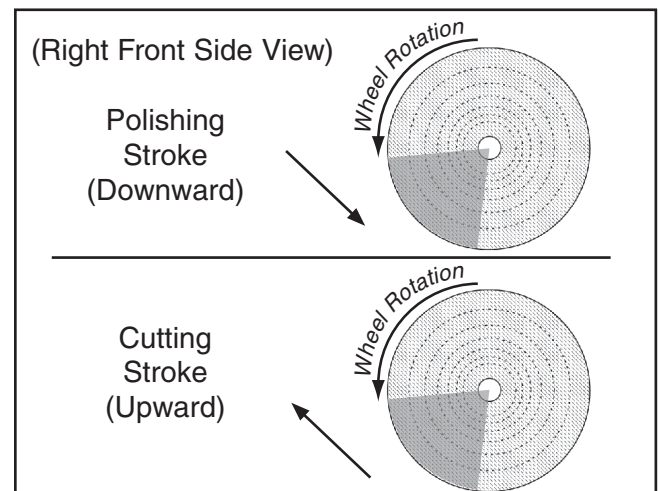

Figure 18. Cutting and polishing strokes.
- Use an upward stroke with heavy to moderate pressure for cutting. Use a downward stroke with light to pressure for polishing. See **Figure 18**.